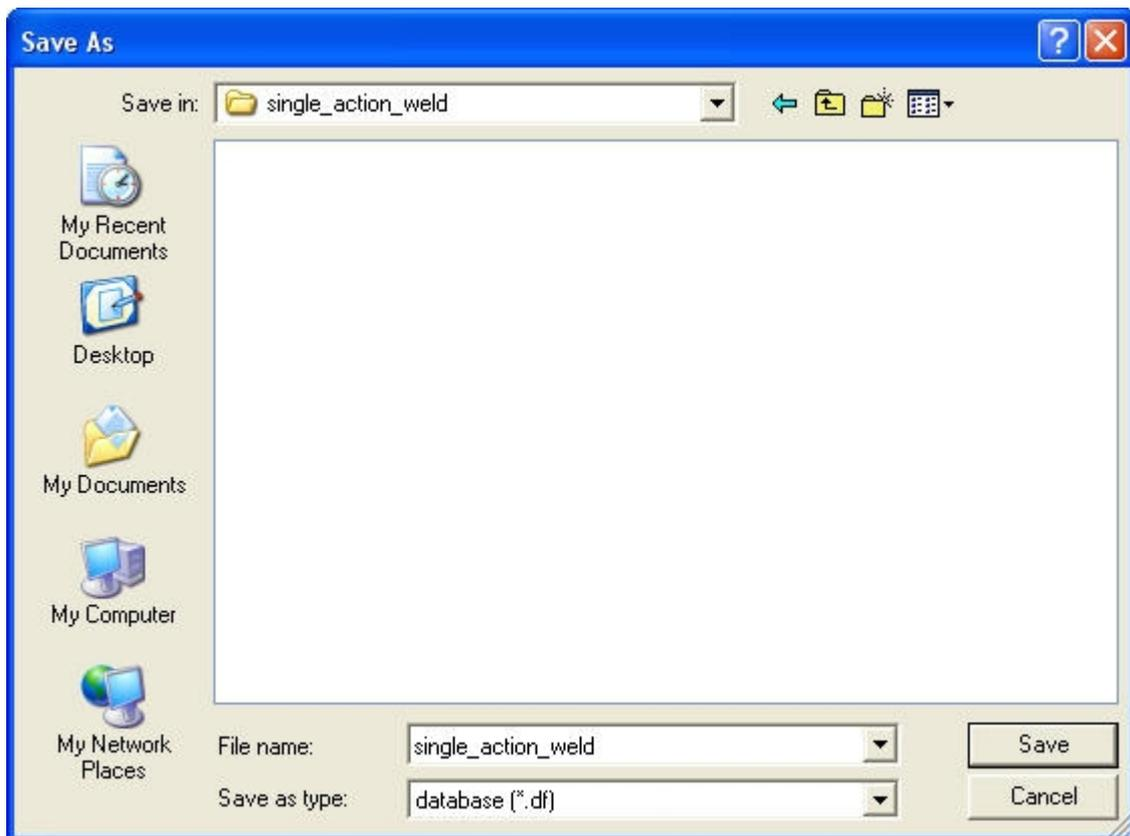

Figure 5.3 Save As dialog box
1. Click **Save** icon from the **Icon bar** to pop up SAVE AS dialog box illustrated in Figure 5.3.